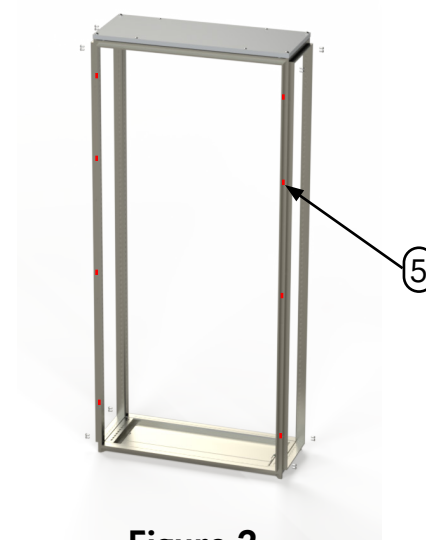

Figure 2
- **Important:** Ensure all four door hardware cutouts on the uprights are aligned and facing the same direction to correctly position the door (Fig. 2).
- Tap into place with a mallet (Fig. 2).